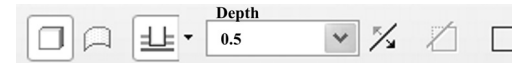

Fig. 2.31.
8. Define the depth.	<p>Select the depth dimension → 0.5 → ENTER</p> <p>Refer to Fig. 2.31.</p>